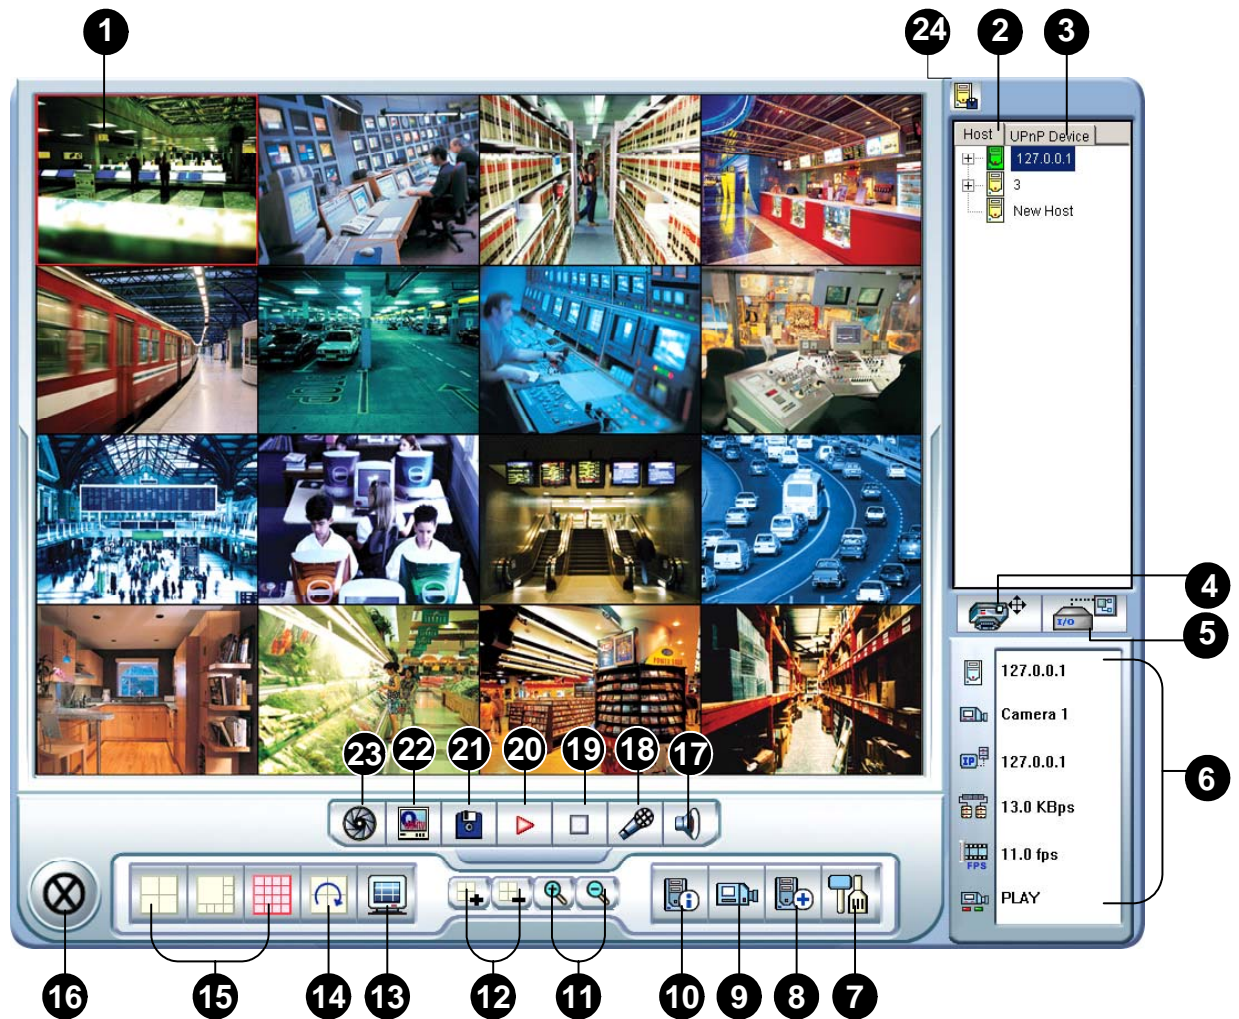

Figure 6-26 The Multi View Window
2. Click the **PTZ Control** button (No. 4, Figure 6-26).
1. Click the **I/O Control** button (No. 5, Figure 6-26).
Click the **Configure** button (No. 7, Figure 6-26) to display the following window.
To create a quick connection to a new host server, click the **Edit Host** button (No. 8, Figure 6-26). This displays the following window.